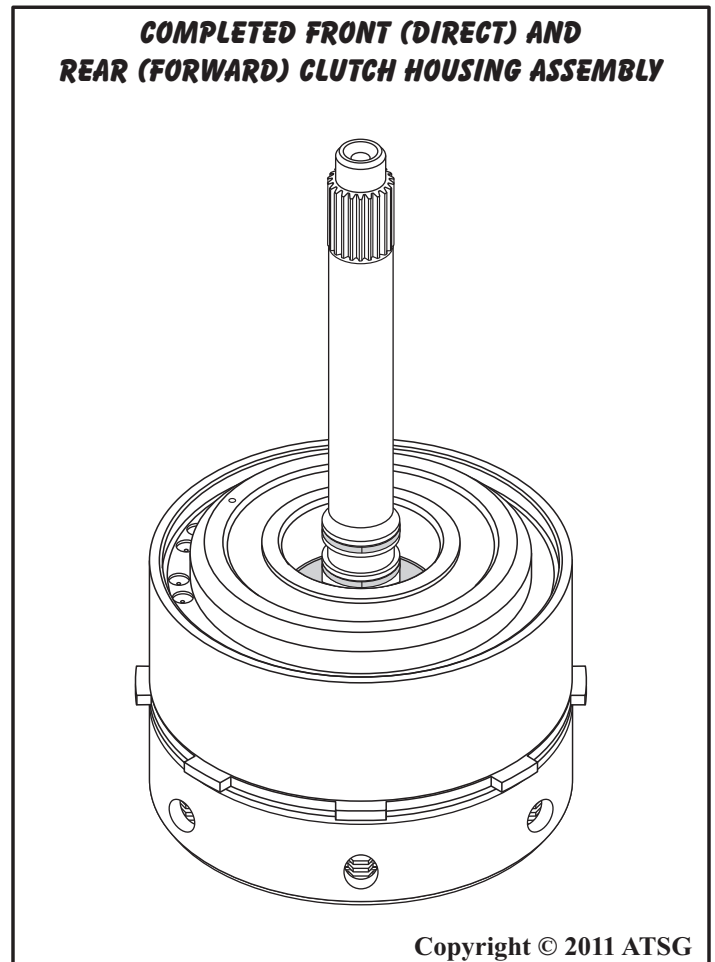

Figure 132
23. Set the completed assembly aside for the final assembly process, as shown in Figure 132.